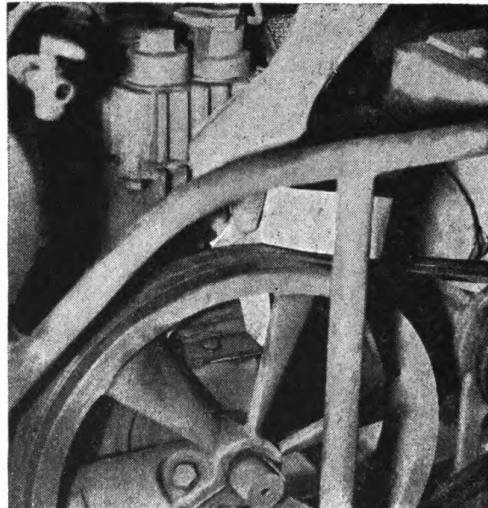

FIGURE 17
5. Remove paper wedge under breather opening located on fly-wheel side directly above the crankshaft—see figure 17.